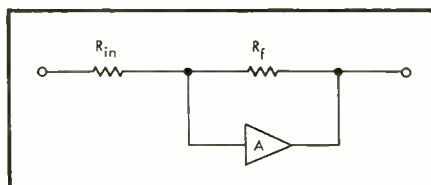

Fig. 1. Operational amplifier configuration.
The amplifier that Myers and Kahn described utilizes a circuit long familiar to perusers of *The General Electric Transistor Handbook*. The amp is direct-coupled (up to the speaker) and uses large amounts of negative feedback, both a.c. and d.c., and from Q_2 on, is an operational amplifier of the form shown in *Fig. 1* where voltage gain equals R_f/R_{in} . The output stage is the now-familiar circuit described by Lin, which I can't seem to help calling a "push-push."
The collaboration of the artist and the scientist-engineer is depicted in Fig. 1. The artist and scientist-engineer team developed the over-all plan, arranged the musical instruments, worked out the placement of the microphones, monitored the reproduced sound in the listening room and recorded the master tape as depicted in (A) of Fig. 1. In the next step, as a result of extensive subjective studies and tests, the team developed the Dynamic Spectrum Equalizer. They worked together to monitor and produce the submaster tape as depicted in (B). The original lacquer is recorded from the submaster tape as shown in (C). In this process they monitored the signal used in cutting the original lacquer disc. They checked the disc record produced by the process shown in (D) in a typical living room (E). They also collaborated in determining the environment and listening habits of the consumer-listeners.
Fig. 1. "Dynagroove" system: (A) System for producing the master tape; (B) system for producing the submaster tape; (C) system for producing the lacquer original disc; (D) processes in the production of the record from the lacquer original, (E) system for reproducing the record in the home.